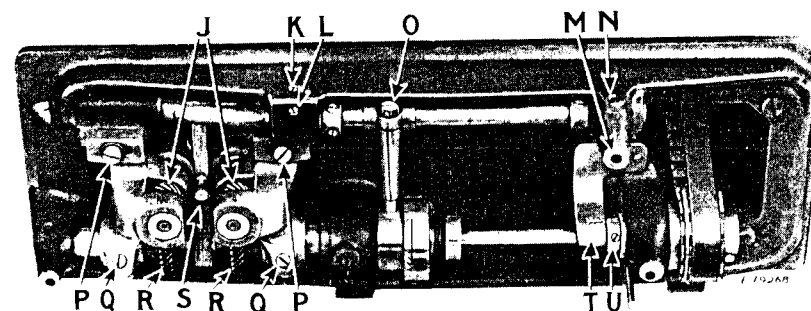
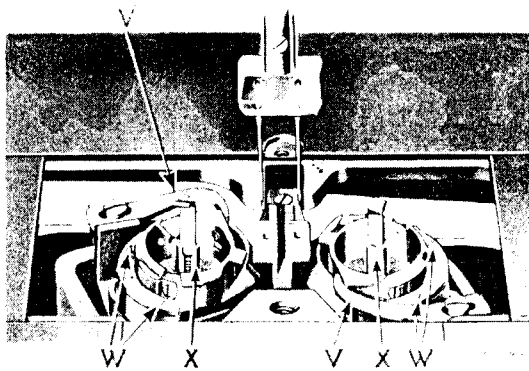
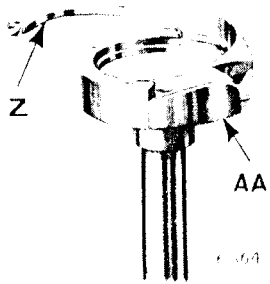

Fig. 16. Adjustments Underneath the Machine
Fig. 17
Fig. 18. Sewing Hook
Turn the machine pulley over toward you until the points of the sewing hooks are at the centers of the needles. Loosen the four screws (P and Q, Fig. 16) underneath the bed of the machine and move the hook saddles to the right or left, as may be required, until the points of the hooks are as close to the needles as possible without striking them, then securely tighten the four screws (P and Q).
The function of the hook washer (needle guard) (AA, Fig. 18), which is attached to the bottom of the sewing hook, is to prevent the point of the hook from striking the needle if, when passing through the material, the needle is deflected toward the hook.
In case the sewing hooks are not correctly timed, turn the machine pulley over toward you until the needle bar has descended to its lowest point and has risen until the lower timing mark across the needle bar is just visible at the end of the needle bar bushing. Loosen the two screws in the hub of each hook shaft gear (J, Fig. 16) and turn the hooks until the point of each hook is at the center of its needle. Then securely tighten the two set screws in each hook shaft gear (J).
The bobbin case opener (V, Fig. 17) should be set so that it touches the bobbin case as lightly as possible, yet turns the bobbin case enough to make a sufficient opening for the free passage of the thread between the throat plate and the bobbin case.
Remove the four hook gib screws (W, Fig. 17) from the sewing hooks, lift off the hook gibs (Z, Fig. 18) and remove the bobbin cases (X, Fig. 17).
Remove the throat plate, feed dog, and the two bobbin case opening levers (V, Fig. 17). Then turn back the machine and loosen the four screws in the hubs of the hook shaft gears (J, Fig. 16) and place the end of a screwdriver against the shaft end of the hooks, tapping with the palm of the hand to drive out the sewing hooks.
The feed rock shaft is carried in split bushings which can be adjusted to take up any wear which may occur. Loosen the two lock screws (L and N, Fig. 16) and turn in the two adjusting screws (K and M) until all lost motion of the rock shaft has been eliminated, then securely tighten the lock screws (L and N).
Remove the throat plate; clean the lint and dust from between the feed points and replace the throat plate; tip the machine back and turn the machine pulley towards you until the feed dog is at its highest position; loosen screw (S, Fig. 16) in the feed lifting cam fork and raise or lower the feed dog, as may be required, then retighten the screw (S).
The feed dog should be set so that it is centered in the slots in the throat plate when the feed eccentric is set for zero feeding movement. If it is not centered properly, loosen the pinch screw (O, Fig. 16) and adjust the feed dog as required, then securely tighten the pinch screw (O).
Owing to the fact that the sewing hooks make two revolutions to one revolution of the hook shaft and that the feed eccentric is on the hook shaft, it is possible to have the sewing hooks correctly timed without having the feed eccentric correctly timed. To overcome this, the plate (T, Fig.16) is attached to the underside of the bed of the machine. This plate is marked with an arrow and the collar (U, Fig.16) on the hook shaft is also marked with an arrow.
After replacing the belt over the arm shaft, replace the arm shaft bearing and securely fasten it in position by the three screws in the flange, and the two set screws in the inner race; replace the machine pulley, place the belt on the upper pulley, and turn the machine pulley over toward you until the thread take-up lever is at its highest point. Then turn the hook shaft with the fingers until the arrow on the collar (U, Fig.16) is directly in line with the arrow on the plate (T). Now, without disturbing either the arm shaft or the hook shaft, slip the belt over the lower pulley. The feed will then be correctly timed with the needle bar.